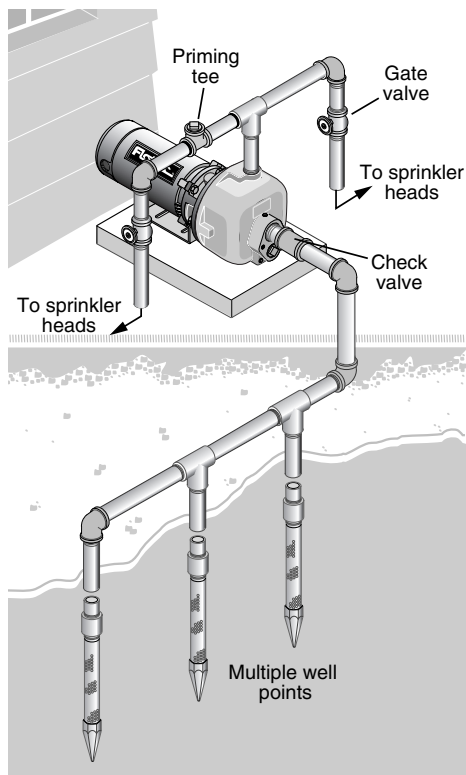

Figure 2: Driven Point Installation, Multiple Well Points
- Step 1. Connect suction pipe to drive point (Fig. 2). Keep horizontal pipe run as short as possible. Use Teflon tape on male pipe threads. Multiple well points may be necessary to provide sufficient water to pump.